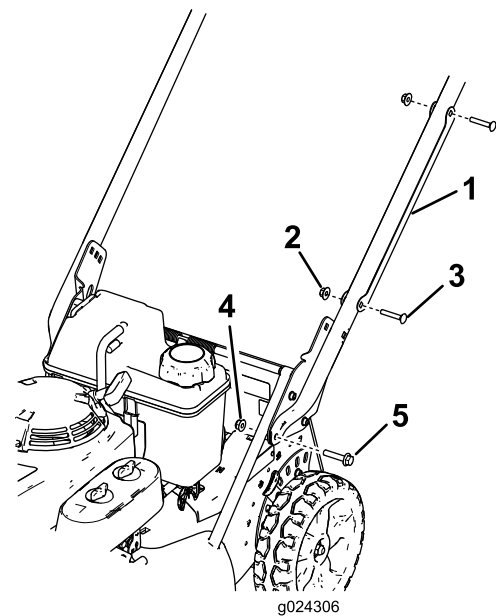

Figure 3
1. Remove the cable guard from the handle (Figure 3) by removing the 2 carriage bolts and 2 locknuts that hold the cable guard to the handle.
2. Install the handle ends onto the mower housing with 2 hex-head-flange bolts (5/16 x 1-1/2 inches) and 2 flange nuts (5/16 inch) as shown in Figure 3.
to the handle with the 2 carriage bolts and the 2 locknuts that you previously removed (Figure 3).